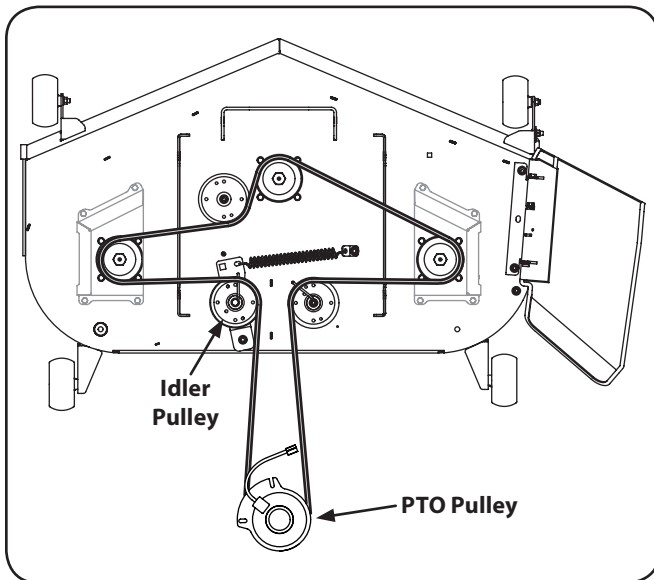

Figure 7-9
- Route the belt as shown in Figure 7-9. After routing the belt around the PTO pulley, use a $\frac{1}{2}$ " drive in the idler pulley bracket and turn towards the back of the tractor to finish routing the belt around the idler pulley.
3. Remove the belt from the spindle pulleys. Refer to Figure 7-9.
4. Install the new belt around the spindle pulleys as shown in Figure 7-9 and reinstall the belt covers.
2. Remove the hex washer screws securing the belt covers to the deck and remove the belt from the spindle pulleys. Refer to Figure 7-9.